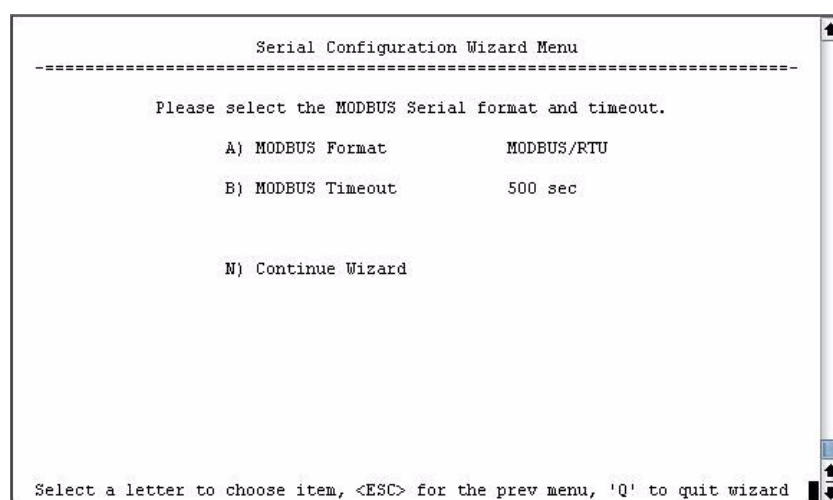

Figure 3-57. Choose Modbus Serial Format and Timeout Value
- On the next screen (Figure 3-57), press **A** to change the Modbus serial format, then press the space bar to toggle between the available formats (**MODBUS/RTU** or **MODBUS/ASCII**). Press **B** to enter the Modbus serial timeout value in milliseconds. Press **N** to continue the wizard.